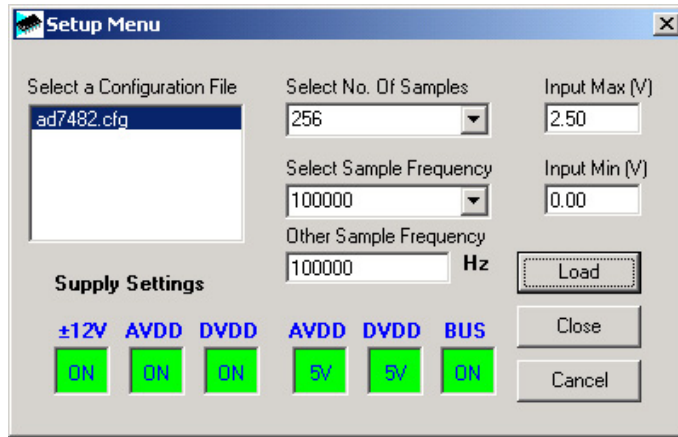

Figure 3. The Setup Menu Dialog Box
The **Setup Menu** dialog box is responsible for allowing the user to load the required configuration file for the evaluation board (see Figure 3). When the configuration file is loaded, the software acquires detailed information about the evaluation board and part connected to the EVAL-CONTROL BRD2 such as the number of bits, maximum sampling rate, output coding, maximum analog input, and power supply requirements. The configuration file also tells the software the name of the DSP program file, which should download to the EVAL-CONTROL BRD2. These files are supplied by Analog Devices with the evaluation board.
With the hardware set up, the user is now in a position to use the software to control the EVAL-CONTROL BRD2 and the evaluation board. In the software screen, the user should select the **File** menu and click **Setup**. This displays the **Setup Menu** (see Figure 3). A window on the left of the setup form lists all the available configuration files. The configuration files are text-based files, which contain information about the particular evaluation board to be tested. The information contained is listed in the Setup Menu Screen section. Select the relevant configuration file and click **Load**. In the case of the AD7482
- **Setup Menu:** Selecting this option displays the **Setup Menu** dialog box as shown in Figure 3.